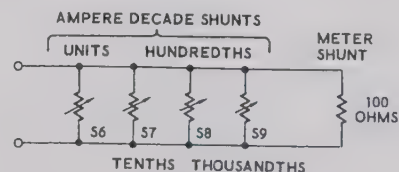
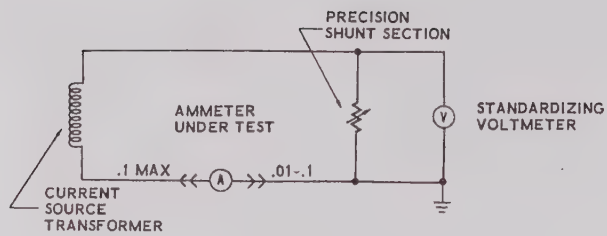

Figure 8. Simplified Precision Shunt Section
Figure 13. Simplified .01A-.1A Range Circuit Diagram
(2) Precision Shunt Section. The precision shunt section consists of the AMPERE decade shunts (S6, S7, S8, and S9) and the meter shunt as shown in figure 8. The combination of these sections makes up a variable shunt unit of one mho per ampere with a 4-dial readout capability. Therefore, when the AMPERE decade switches are set to 1.000, 5.000 or 10.999 (picking values at random) there will be exactly 1 VAC across the meter shunt for input currents to the precision shunt section of 10.00, 50.00, or 109.99 milliamperes, respectively. Since 10 milliamperes also represents the lower current capability of the Model 250, current measurements from 10 to 100 milliamperes are made directly (without the use of a precision current transformer). A simplified schematic is shown in figure 13. To obtain the high accuracy of the Model 250, 4-terminal techniques are used to measure the voltage dropped across the meter shunt section. The high accuracy requirement also necessitates factory trimming of selective wire lengths within the precision shunt section. Since the 10 to 100 milliampere range is the only measurement range connecting the precision shunt section directly to the instrument under test, care must be taken to avoid unwanted ground current paths which would degrade the measurement accuracy (see section 2.5.c.).
(3) The Compensating L-Pad. Located between the Ampere Decade shunts and the Meter shunt is the Compensating L-Pad (R162 through R169). When a precision current transformer such as T2 or T3 is operated over a 10 to 1 range of input current its ratio error is not a constant. It is the function of the Compensating L-Pad to compensate for the ratio error changes in T2 and T3. The values used are a function of the individual